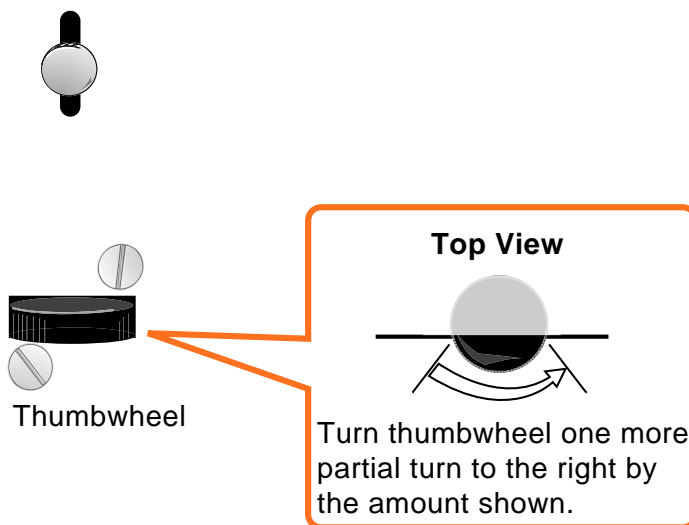

Figure 5-7. Thumbwheel Rotation
- Turn the thumbwheel to the right just until the clicking sound stops. Then, turn it one more partial turn (see Figure 5-7).